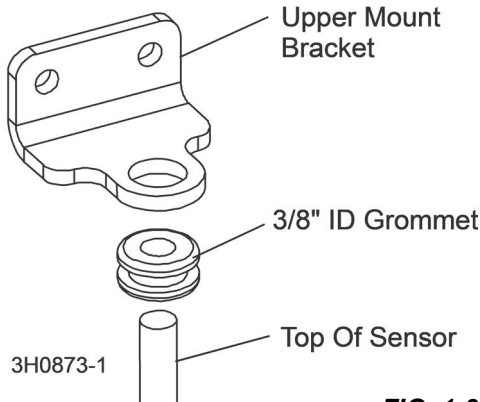

FIG. 1-3
3. Install the 3/8" ID grommet to the upper mount bracket and install to the top of the sensor. **See Figure 1-3**